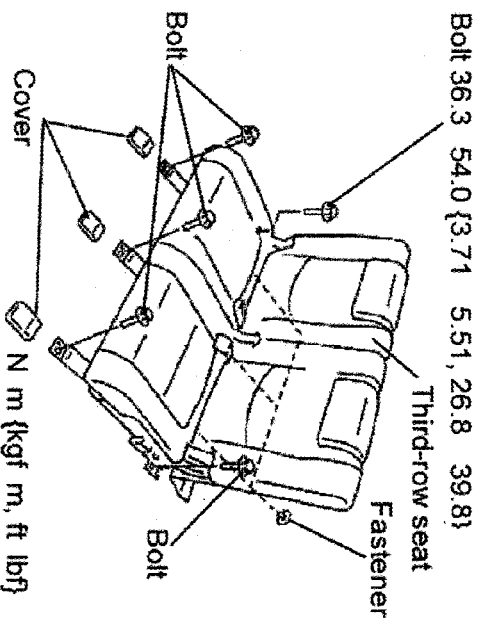

FIGURE 37
- 1.) REMOVE THE THREE FASTENERS. (SEE FIGURE 37)
- 2.) REMOVE THE THREE COVERS. (SEE FIGURE 37)
- 3.) REMOVE THE FIVE 14 MM BOLTS. (SEE FIGURE 37)
- 4.) REMOVE THE THIRD-ROW SEAT. (SEE FIGURE 37)